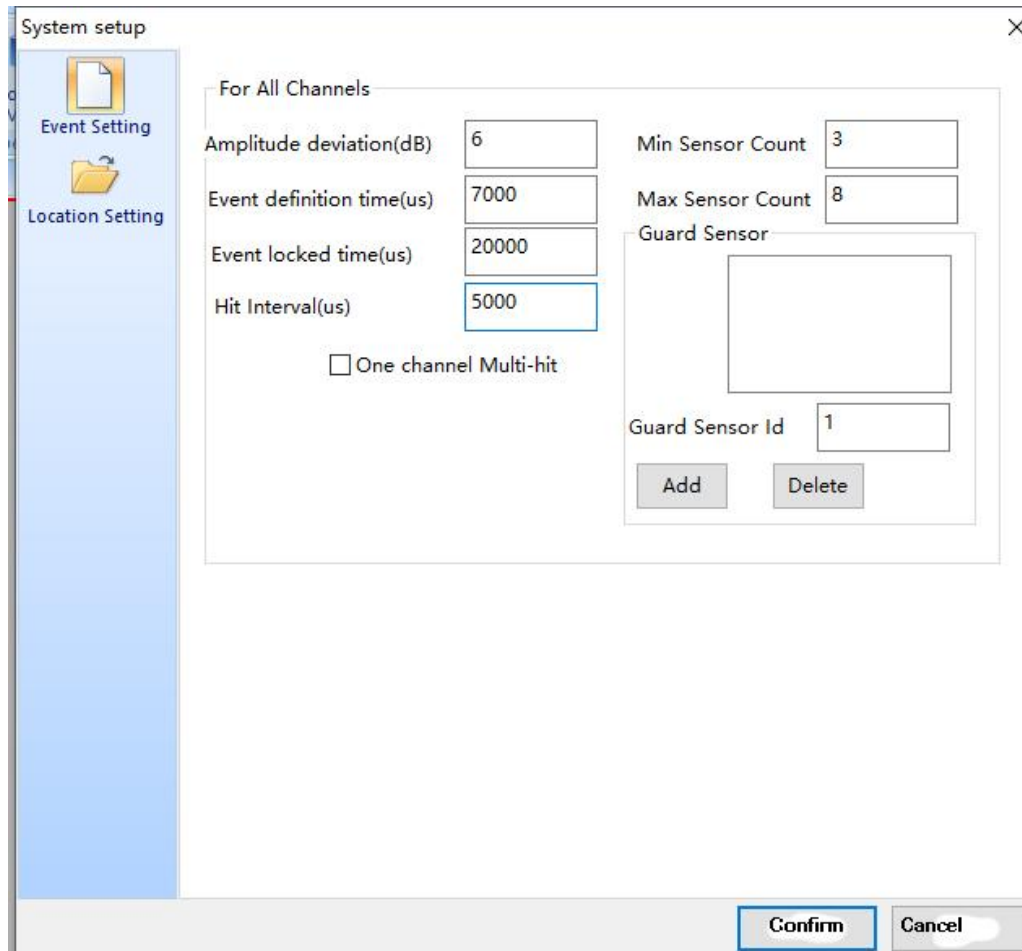

Fig. 2-18 Event Setting Interface
**Sound velocity (Km/s):** generally, sound speed should be measured in practice before the test. Reasonable sound speed is very important for positioning accuracy. Take Figure 2-18 rectangle sensor array as an example. Take a pencil lead break signal along but outside the [d] direction. Record the arrival time difference [t] between S2 and S4. The sound velocity should be  $[d/t]$ . The default sound speed is common metal surface wave sound speed, which is suitable for the arrangement of sensor spacing of 1-5m;